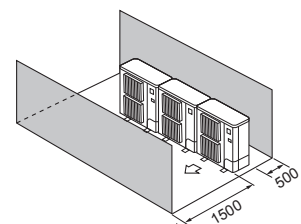

Fig. 2-12
- ④ Obstacles at front and rear only (Fig. 2-12)